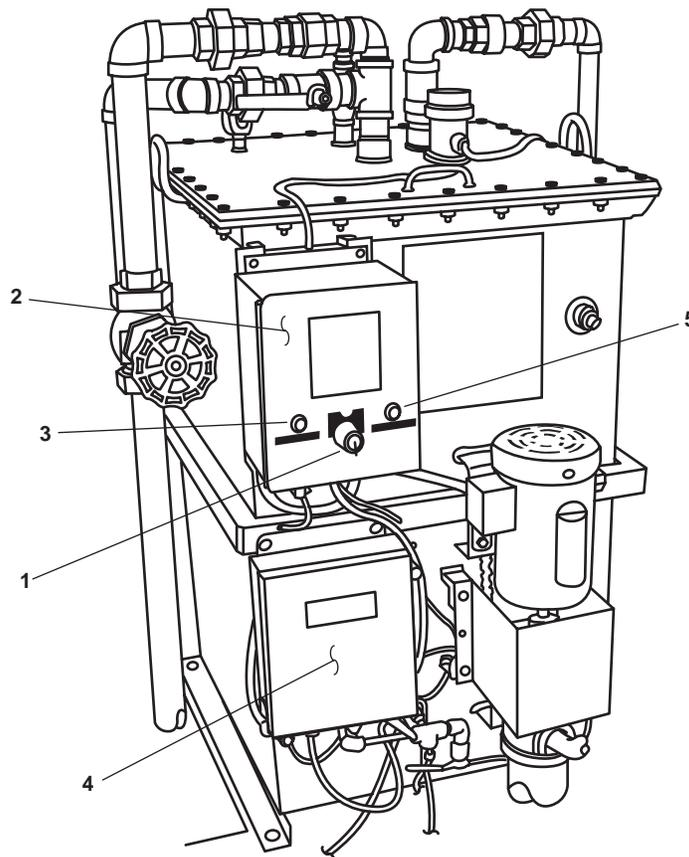
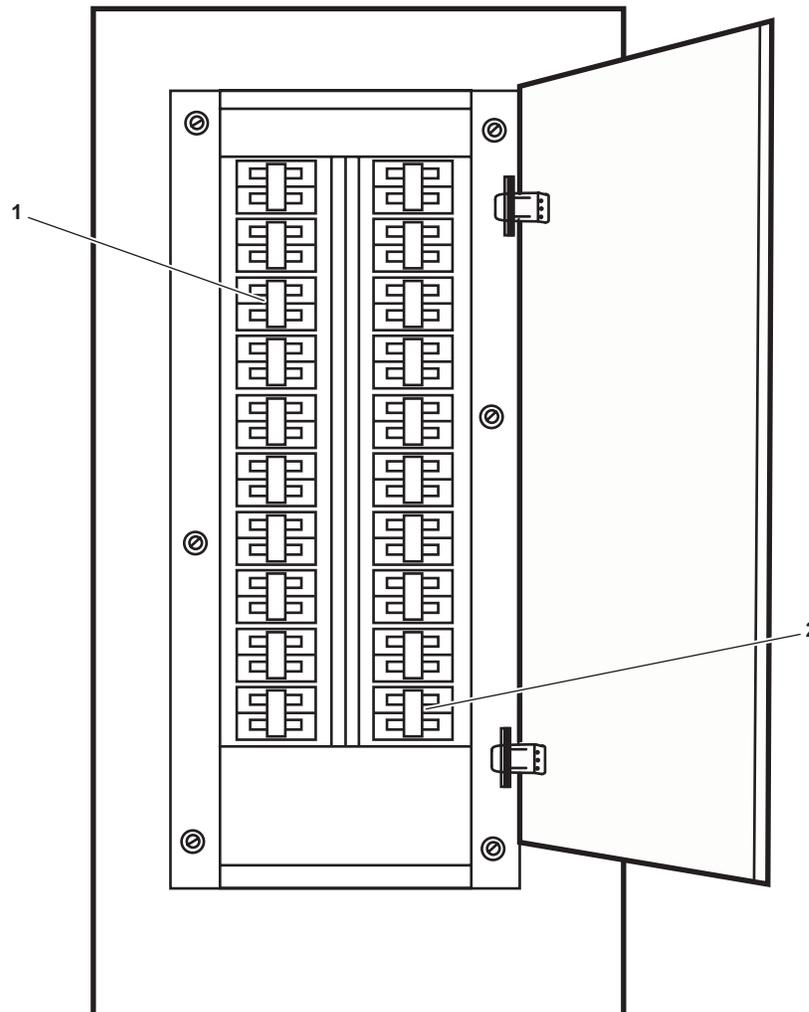

Figure 1. OWS Control Panel
Figure 2. 120V Distribution Panel No. 4
1. Set to OFF the OWS switch (figure 1, item 1) on the OWS control panel (figure 1, item 2).
2. Set to ON the OILY WATER SEPARATOR circuit breaker (figure 2, item 1) in the 120V distribution panel No. 4. The green POWER AVAILABLE indicator (figure 1, item 3) will illuminate to indicate that the OWS control panel has power available.